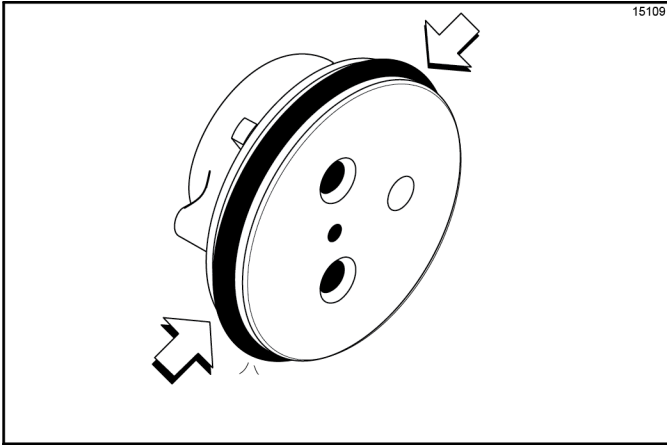

Figure 6-32
5. Assemble the valve cap. Slide the red O-ring into the groove of the valve cap. **Do not** lubricate the O-ring. (See Figure 6-32.)